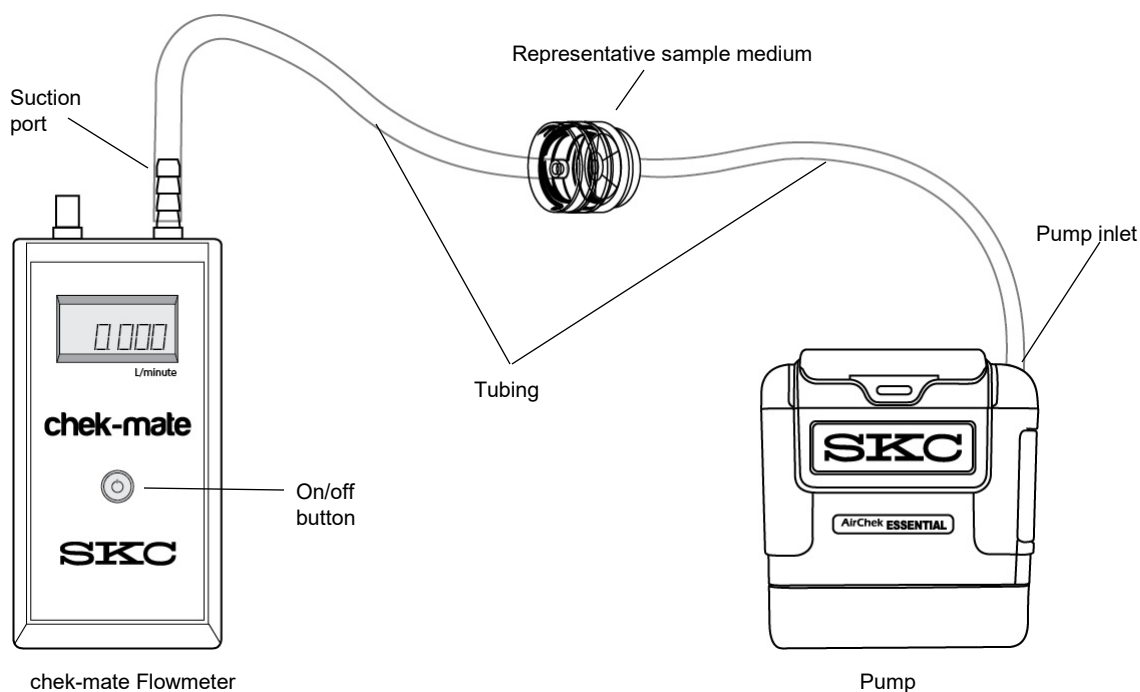

Figure 3. Flow Rate Verification Train (1 to 5 L/min)
3. Set up a flow rate verification train (*Figure 3*).